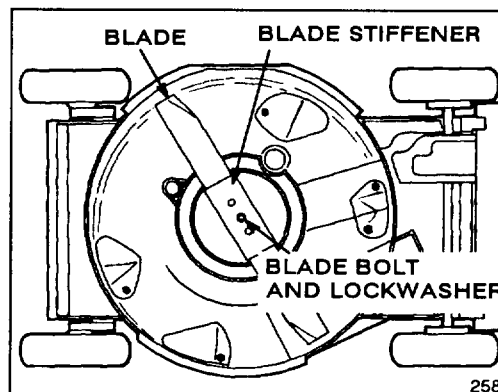

Figure 26
3. Tip mower on its right side (Fig. 26). Avoid rotating blade because starting problems may result.
5. **REMOVING BLADE**—Grasp end of blade using a rag or thickly padded glove. Remove blade bolt, lockwasher, blade stiffener and blade (Fig. 26).